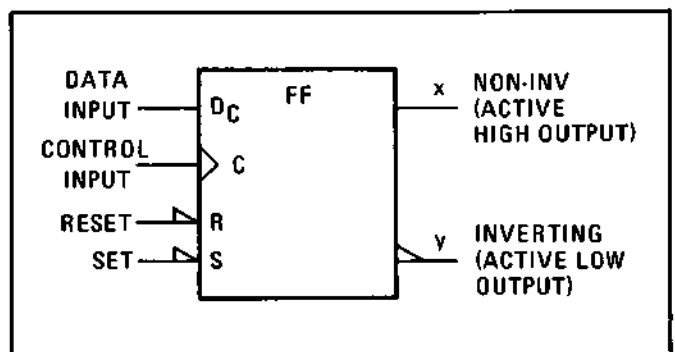

Figure 8-116. D-Type Flip-Flop (Edge-Triggered)
D-type flip-flops are used for temporary storage of one bit of binary data. The D_C input is stored and transferred to the output at X when the control input (C) undergoes a low-to-high transition. Y is the complement of X (i.e., $Y=X$). The S and R inputs set (S) and reset (R) the outputs independent of the control input status. Only one of these inputs is normally active at a time. If both are active, the X and Y are either both high or both low, depending on the particular device used. See Figure 8-116.